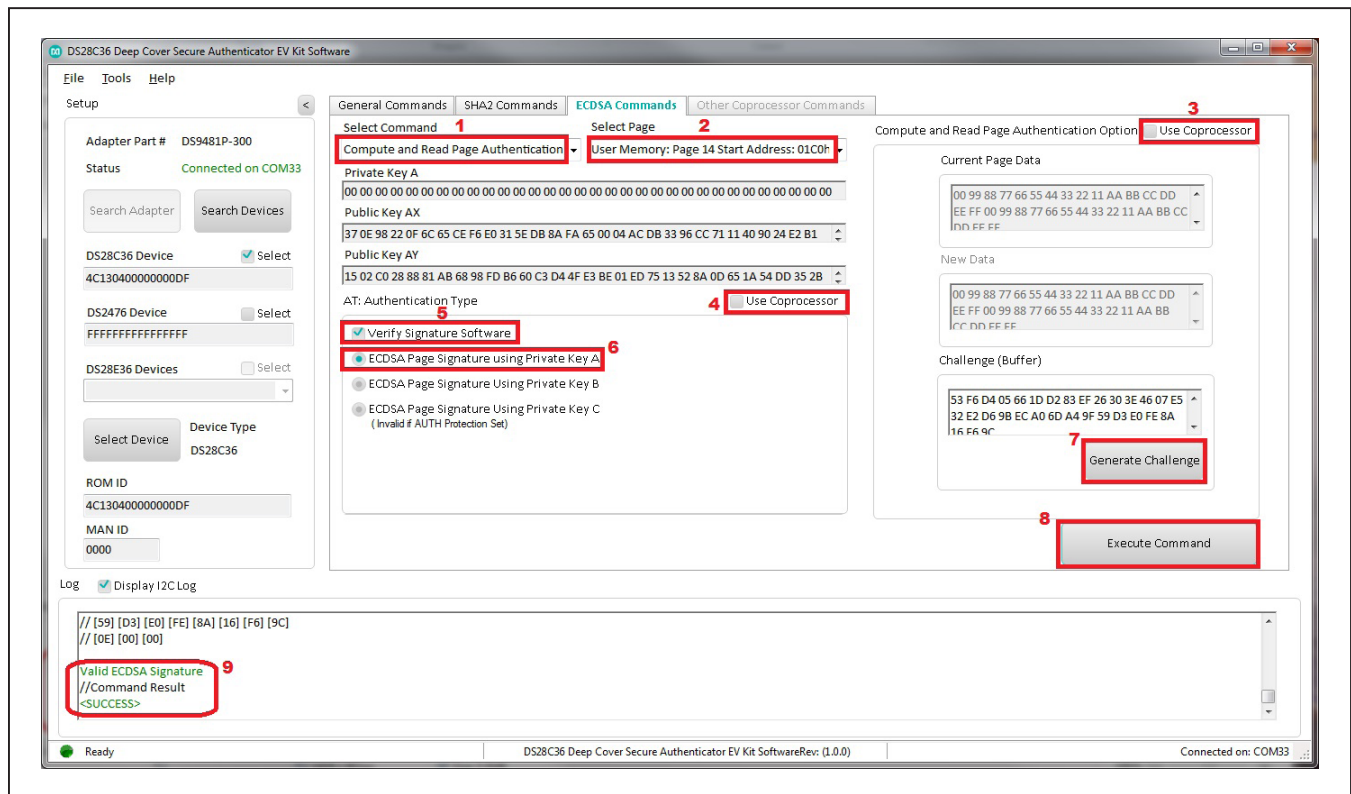

Figure 29. Compute Signature with DS28C36 and Verify with Software
- 8) Perform **Compute and Read Page Authentication** with the ECDSA key set selected on feature page 14 and verify the signature (Figure 29). From the **Select Command** drop-down list, choose **Compute and Read Page Authentication**. From the **Select Page** drop-down list, choose **User Memory: Page 14 Start Address: 01C0h** and confirm that the **Verify Signature Software** checkbox is selected. Uncheck the **Use Coprocessor** checkbox and click on the **Generate Challenge** button. This reads a random number from the host software to be used as the challenge that is written to the DS28C36 buffer as well. Clicking the **Execute Command** button computes the **Read Page Authentication** signature from the DS28C36 and then the host software verifies the signature. Confirming that the **Log** displays **Valid ECDSA Signature** means that the DS28C36 is authentic. **Note:** Both the Verify Certificate in step 4 and the DS28C36's signature had to be verified to be considered authentic. If either verify failed, the DS28C36 would not be authentic.